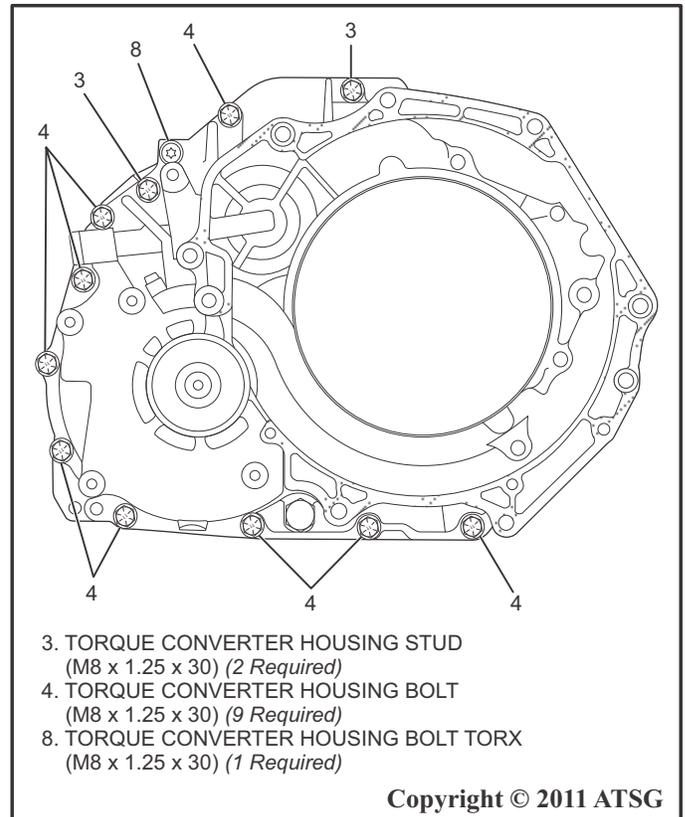

Figure 81
2. Install the converter housing onto the transmission case assembly and install the twelve converter housing attaching bolts (*hand tightening only*) as shown in Figure 81.